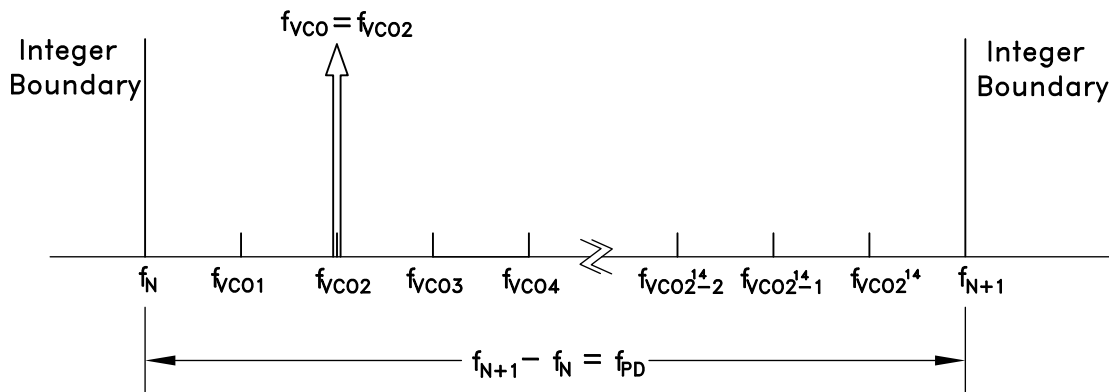

Figure 44. Exact Frequency Tuning
and  $f_{VCOk}$  are the channel step frequencies where  $0 < k < 2^{24}-1$ , As shown in Figure 44.
Some fractional PLLs are able to achieve this by adjusting (shortening) the length of the Phase Accumulator (the denominator or the modulus of the Delta-Sigma modulator) so that the Delta-Sigma modulator phase accumulator repeats at an exact period related to the interval frequency ( $f_{VCOk} - f_{VCO(k-1)}$ ) in Figure 44. Consequently, the shortened accumulator results in more frequent repeating patterns and as a result often leads to spurious emissions at multiples of the repeating pattern period, or at harmonic frequencies of  $f_{VCOk} - f_{VCO(k-1)}$ . For example, in some applications, these intervals might represent the spacing between radio channels, and the spurious would occur at multiples of the channel spacing.
If it is desirable to have multiple, equally spaced, exact frequency channels that fall within the same interval (ie.  $f_N \leq f_{VCOk} < f_{N+1}$ ) where  $f_{VCOk}$  is shown in Figure 44 and  $1 \leq k \leq 2^{14}$ , it is possible to maintain the same integer-N (Reg 03h) and exact frequency register (Reg 0Ch) settings and only update the fractional register (Reg 04h) setting. The Exact Frequency Channel Mode is possible if (EQ 17) is satisfied for at least two equally spaced adjacent frequency channels, i.e. the channel step size.
To configure the HMC833LP6GE for Exact Frequency Channel Mode, initially and only at the beginning, integer (Reg 03h) and exact frequency (Reg 0Ch) registers need to be programmed for the smallest  $f_{VCO}$  frequency ( $f_{VCO1}$  in Figure 44), as follows:
1. Calculate and program the integer register setting  $\text{Reg 03h} = N_{INT} = \text{floor}(f_{VCO1}/f_{PD})$ , where  $f_{VCO1}$  is shown in Figure 44 and corresponds to minimum channel VCO frequency. Then the lower integer boundary frequency is given by  $f_N = N_{INT} \cdot f_{PD}$ .
$$\text{Reg04h} = N_{FRAC} = \text{ceil} \left( \frac{2^{24} (f_{VCOk} - f_N)}{f_{PD}} \right) \quad \text{where } f_N = \text{floor}(f_{VCO1}/f_{PD}), \text{ and } f_{VCO1}, \text{ as shown in Figure 44, represents the smallest channel VCO frequency that is greater than } f_N.$$
4. To change from channel 1 ( $f_{VCO1} = 2800.2$  MHz) to channel 2 ( $f_{VCO2} = 2800.3$  MHz), only Reg 04h needs to be programmed, as long as all of the desired exact frequencies  $f_{VCOk}$  (Figure 44) fall between the same integer-N boundaries ( $f_N < f_{VCOk} < f_{N+1}$ ). In that case